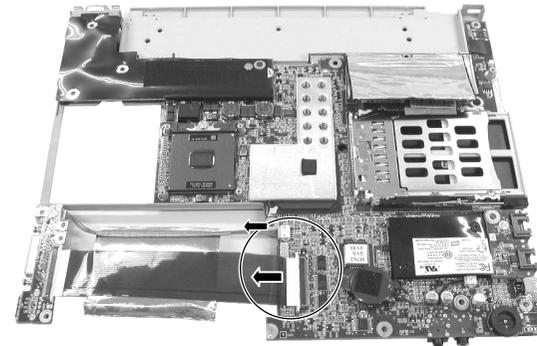

Figure 2-20 Remove the transfer board
4. Unplug the two cables from the system board. (See Figure 2-20)